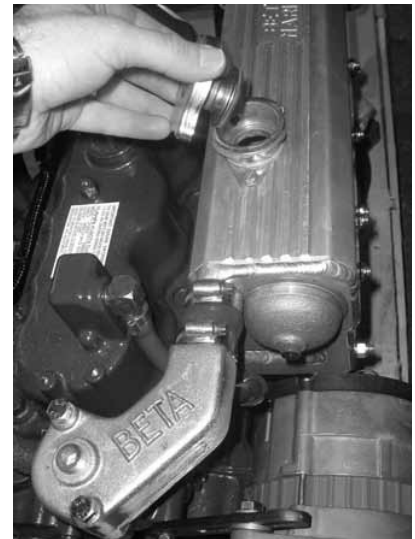

Fig. 2m
- Fill engine with freshwater/anti freeze solution through the top of the heat exchanger or header tank with the filler cap removed. (see fig 2m).